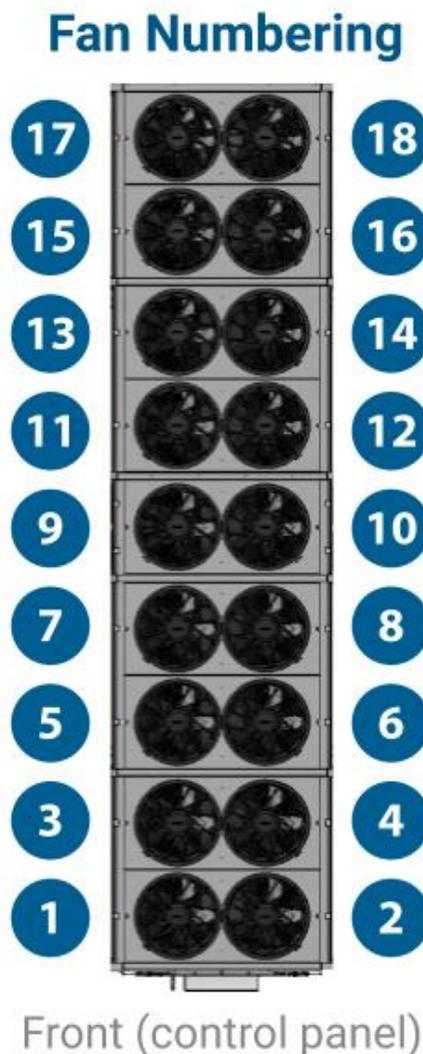

Figure 79. Fan Numbering Plan View
3. Use the dropdown menu titled "Select Fan to Replace" to select the correct fan number. Refer to **Figure 79** to identify the correct fan number.